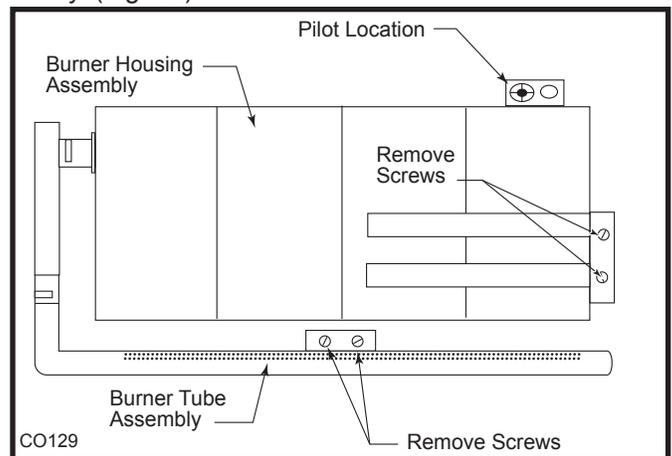

Fig. 66 Remove screws holding burner housing assembly and burner tube assembly.
1. Remove the screws that secure the fettle and the burner tube assembly, located behind the burner tube assembly. Remove the four (4) screws that secure the burner housing assembly to the base pan at the right and left end of the burner housing assembly. (Fig. 66)
1. Remove the screws that secure the fettle and the burner tube assembly, located behind the burner tube assembly. Remove the two (2) screws that secure the burner housing assembly to the base pan at the right end of the burner housing assembly. (Fig. 66)